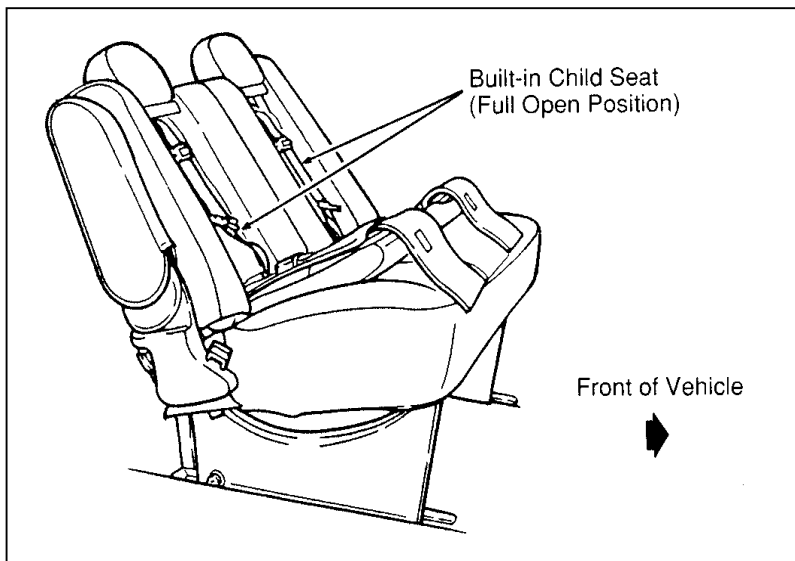

Figure 1: Built-in child seat fully open
1. Ensure head restraint is in the down position, then pull child seat down completely. Refer to Figure 1. The child seat can only be folded down when the head restraint is in the down position. The head restraint cannot be raised when the child seat is folded down.